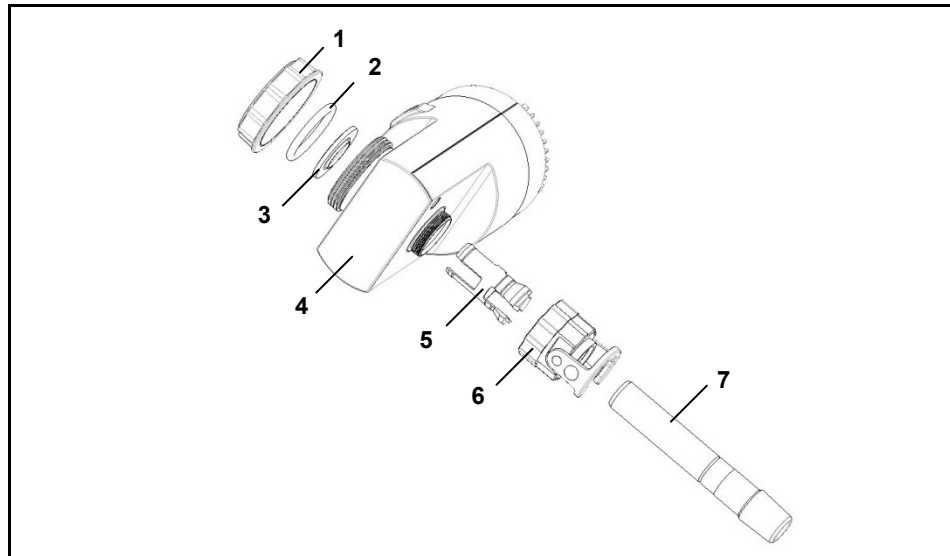

Figure 4-7: Install the vapor tube
4. Remove the screw coupling connection of the vapor tube (Figure 4-7 (6)) from the drive unit.
5. Pull out the clamping sleeve (Figure 4-7 (5)).
6. Push the vapor tube coupling clamp (Figure 4-7 (6)) and clamping sleeve (Figure 4-7 (5)) with the bead first to the vapor tube (Figure 4-7 (7)). Verify that the bead audibly snaps into the groove of the vapor tube (Figure 4-7 (7)).
7. Push the vapor tube (Figure 4-7 (7)) into the drive unit with the pre-assembled parts.
9. Manually tighten the vapor tube coupling clamp (Figure 4-7 (6)) with the threaded connection of the motor drive (Figure 4-7 (4)) till a tight connection is made.